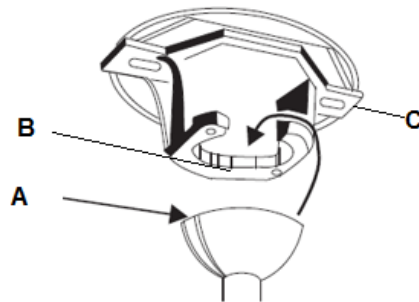

Fig. 8
Lift the fan assembly onto the mounting bracket. Ensure the registration slot (A) of the hanger ball is positioned on the stopper (B) of the mounting bracket (C) to prevent the fan from rotating when in operation. (Fig.8)